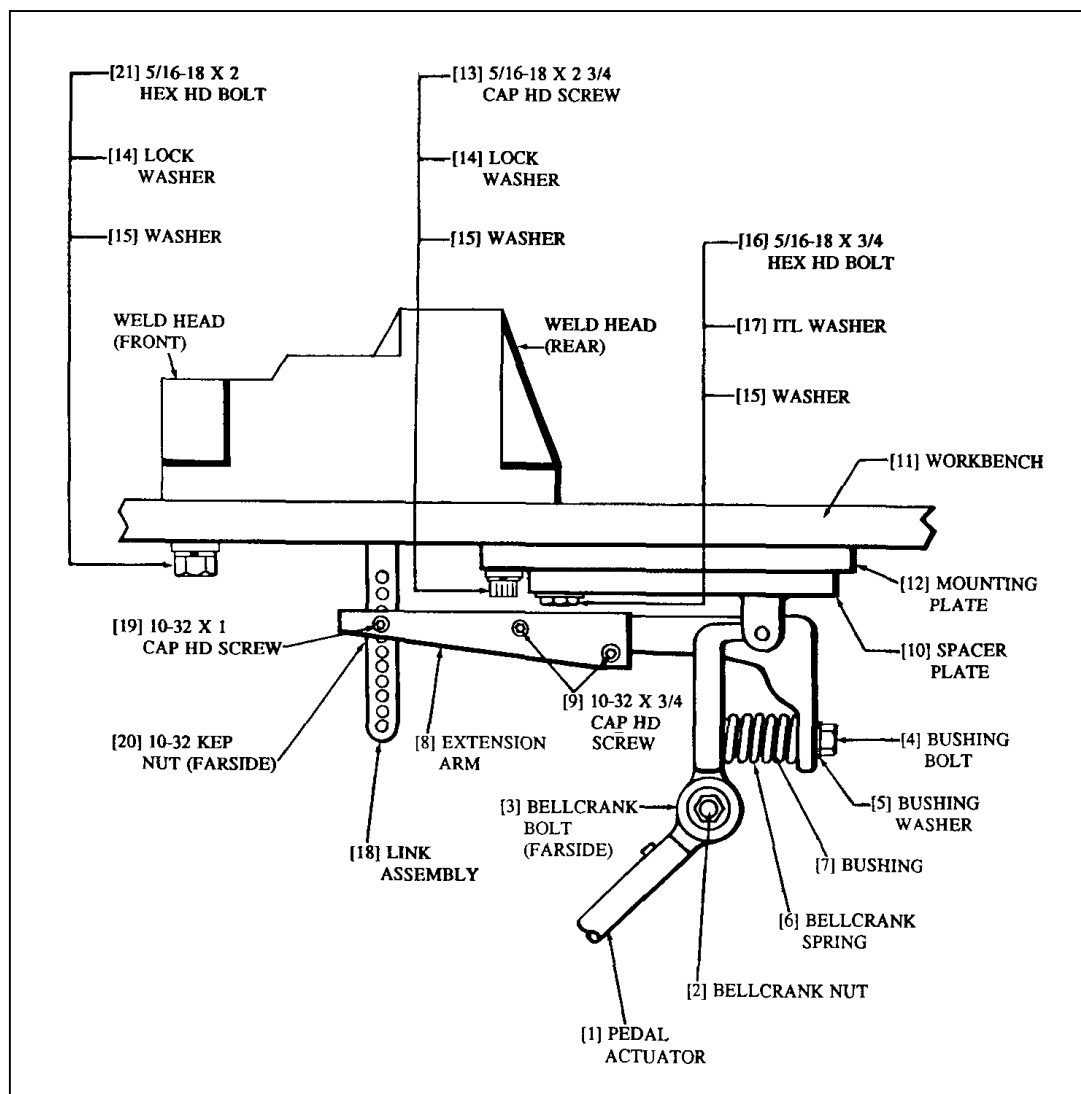

Figure 2-1. Model 90F and MSP Footpedal installation
- 3 Reference Figure 2-1 for the following instructions. Remove the PEDAL ACTUATOR, item [1], by removing the BELLCRANK NUT, item [2], and the BELLCRANK BOLT, item [3].